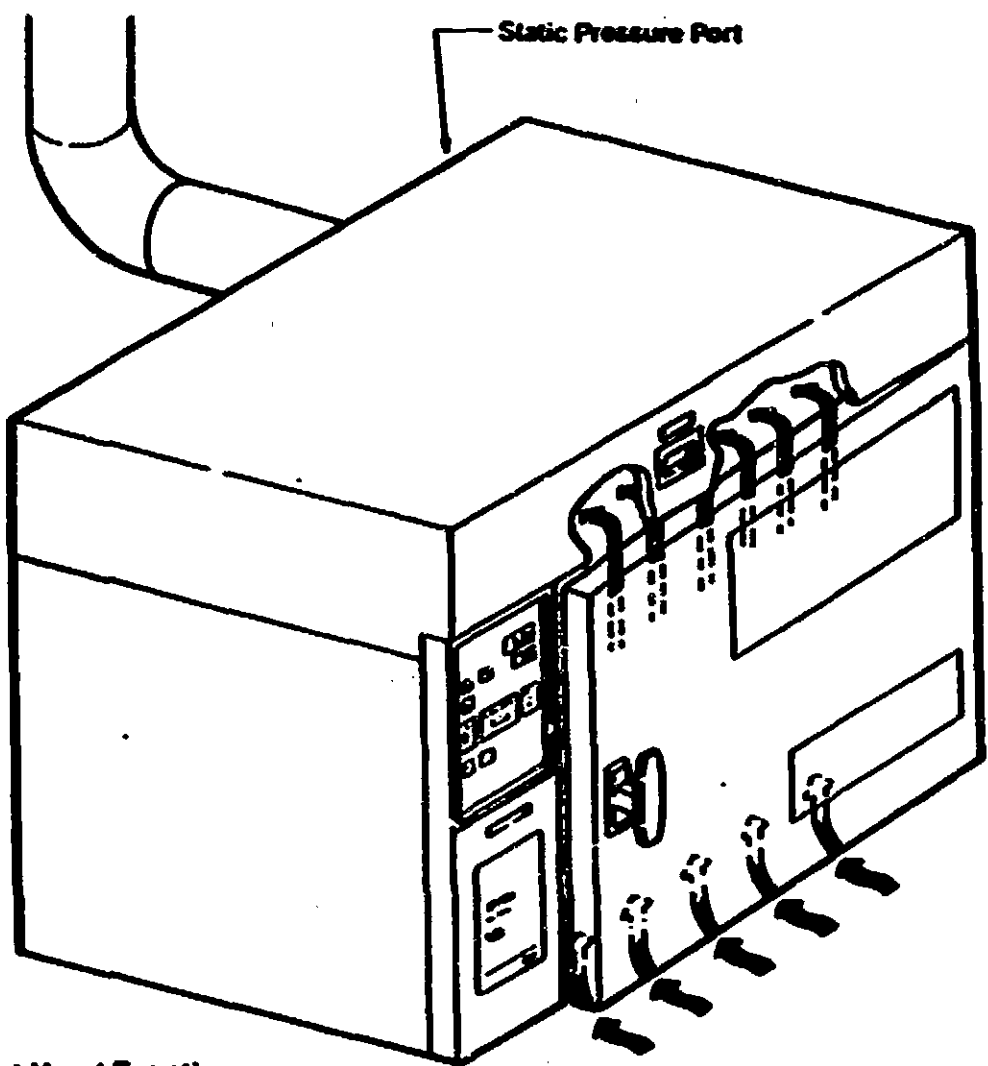

Figure 7: Local Exhaust Hood Function
An exhaust hood is built into the top panel of the sterilizer. Its purpose is to remove residual ethylene oxide gas (EO) from the sterilizer chamber when the door is opened at cycle completion. The hood must be connected to a dedicated exhaust system supplied by the customer. At the end of the sterilization cycle, the operator opens the sterilizer door to a latched position. While in this position, air is drawn upward from the bottom of the sterilizer door through the hood to the outside or to an emission control system via the exhaust duct. The air stream vacuums EO molecules from the front of the sterilizer chamber. Refer to Figure 7.
Minimum static pressure of -0.15cm (-0.06 in of water) at the static pressure port (See Figure 7). Measure the static pressure when the sterilizer door is in the open latched position.